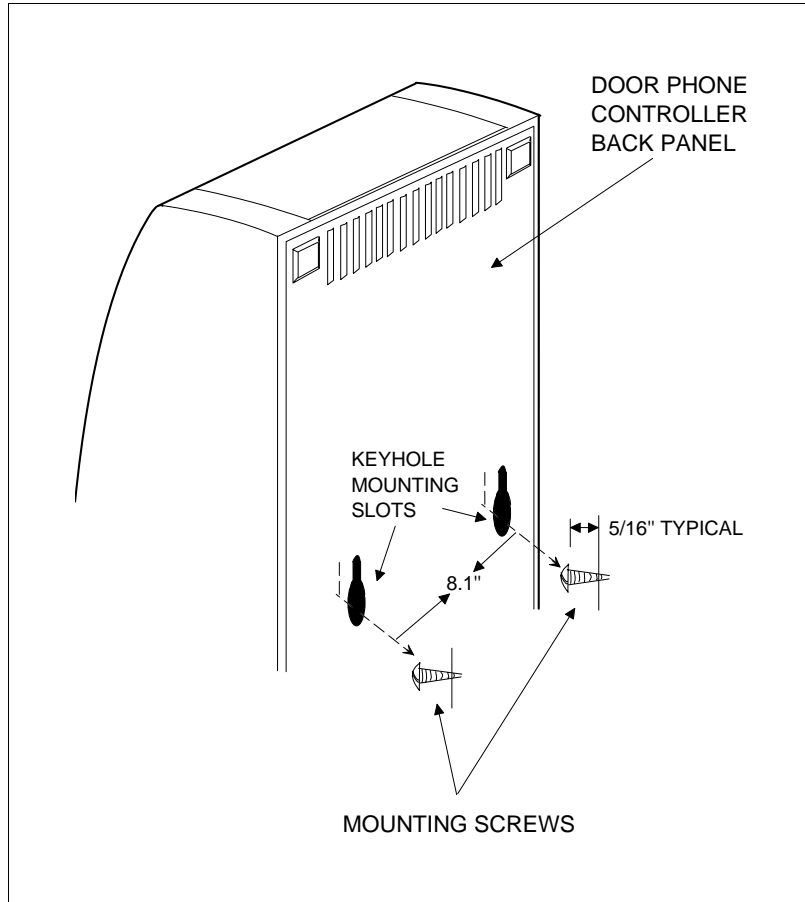

Figure 2-3. Mounting PagePac[®] Door Phone Controller to Wall
3. Mount the Door Phone Controller over the protruding screw heads and seat unit firmly to the wall. See Figure 2-3.